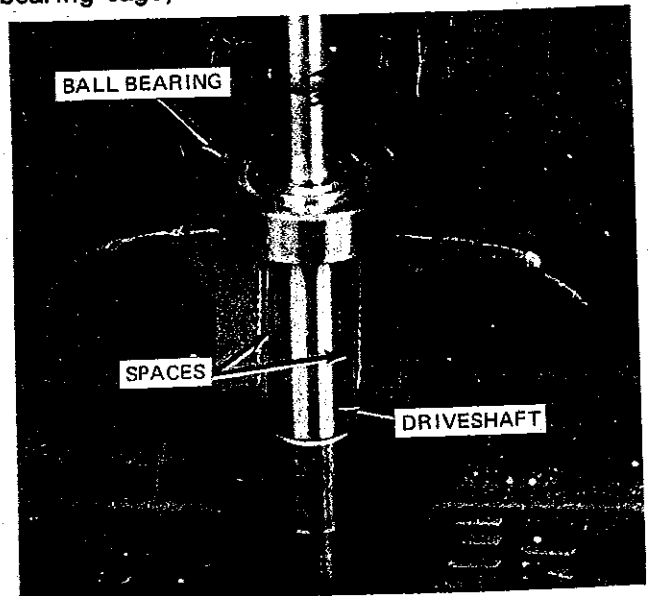

Figure 19. Install bearing on drive shaft.
- A. Place the drive shaft in a vise so that the jaws support the ball bearing inner race, but do not touch the shaft. Use a soft hammer or block of wood and a hammer to tap the drive shaft out of the ball bearing (Figure 19).